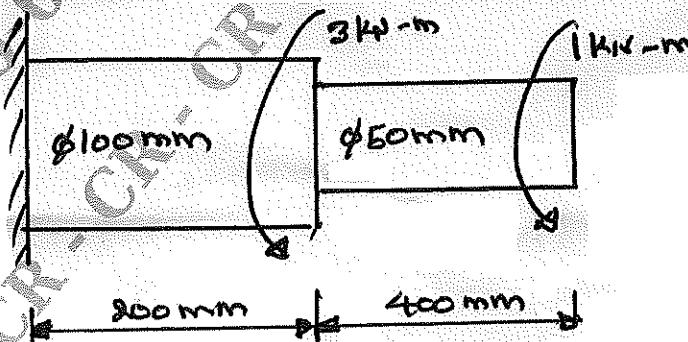

Fig.Q6(b)
- b. A solid stepped bar of circular cross section shown in Fig.Q6(b) is subjected to a torque of 1 kN-m at its free end and torque of 3 kN-m at its change in cross section. Determine the angle of twist and shear stresses in the bar. Take $E = 2 \times 10^5 \text{ N/mm}^2$ and $G = 7 \times 10^4 \text{ N/mm}^2$.